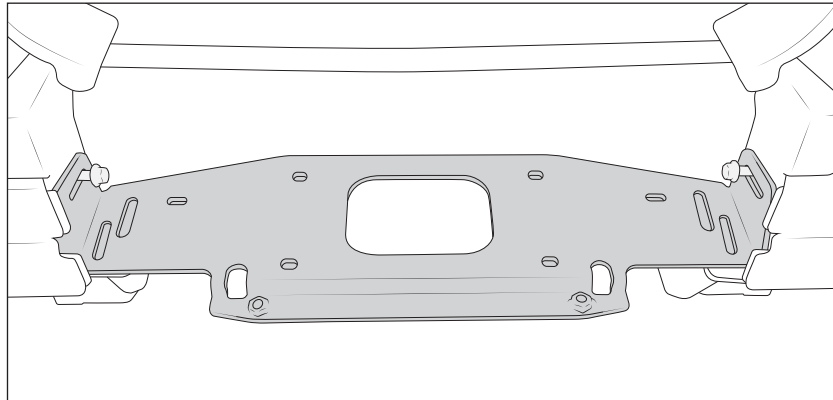

Figure 11
3. Install the winch plate to the frame in the orientation shown (fig. 11). Use supplied M10x40mm bolts to loosely bolt winch plate and reinforcement brackets into the frame weld nuts.